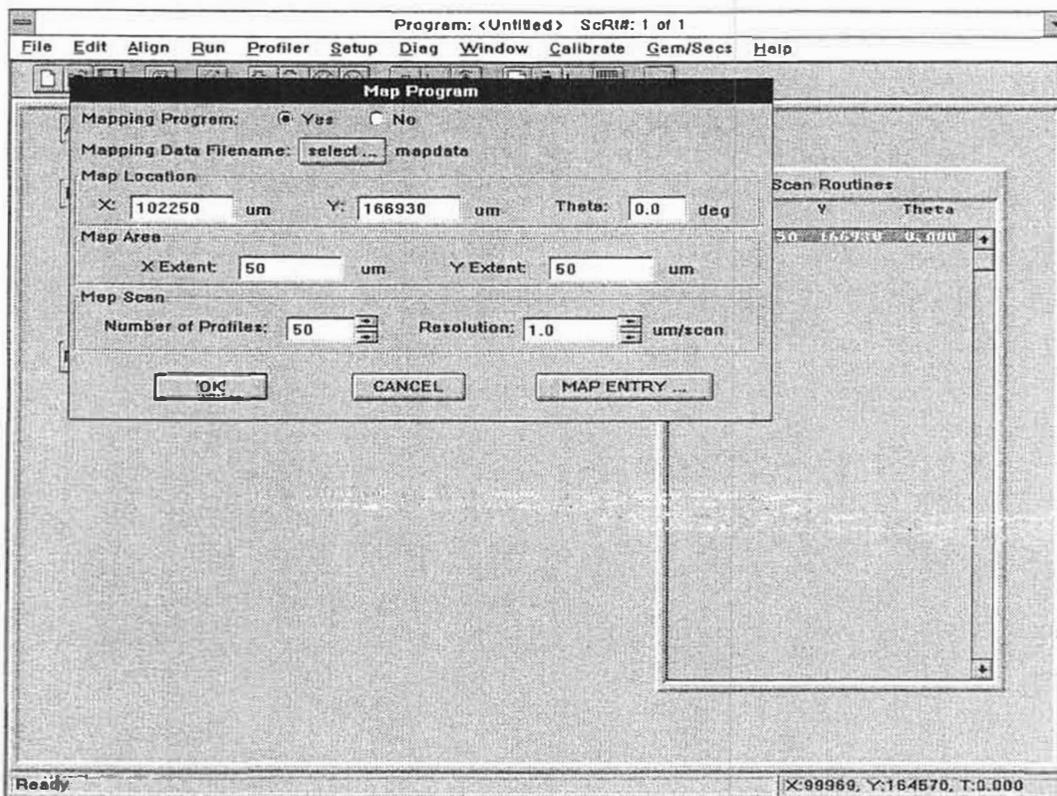

Figure D-2. Map Program Dialog Box
4. To accept the scan length and Y extent, click-on "OK" from the Enter Scan Map Region dialog box. The Map Program dialog box shown in Figure D-2 will display detailed map parameters.
The Map Program dialog box shown in Figure D-2 contains the parameters for a 3-D map set-up in the previous step. Prior to running a 3D mapping program it is recommended that a mapping data filename be selected. Click-on the Mapping Data Filename "select..." button from the map program dialog box to enter the desired filename. To enter the filename and accept the map program parameters, click-on "OK".